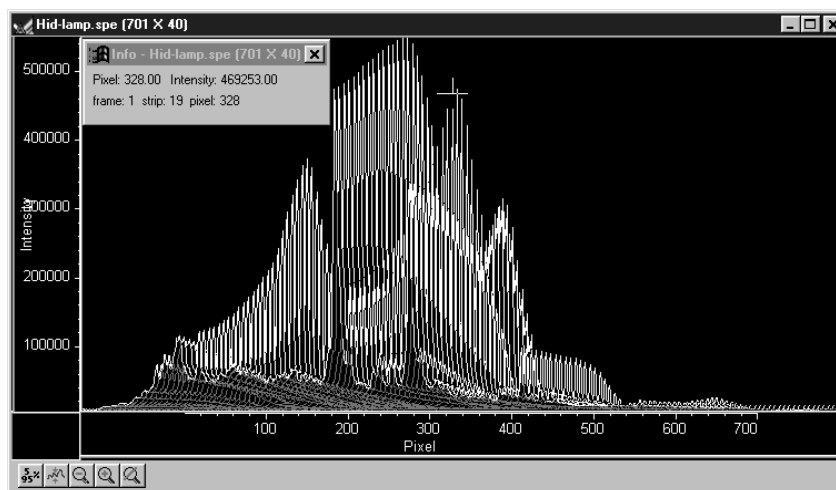

Figure 86. 3D plot with hidden surfaces
2. Click on **OK**. The data should be redisplayed as shown in Figure 86, with the hidden surface (darker lines) clearly visible.